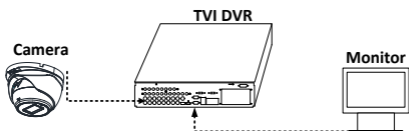

Figure 3-1 Connection
- Connect the camera with the TVI DVR, and the monitor shown as the Figure 3-1.